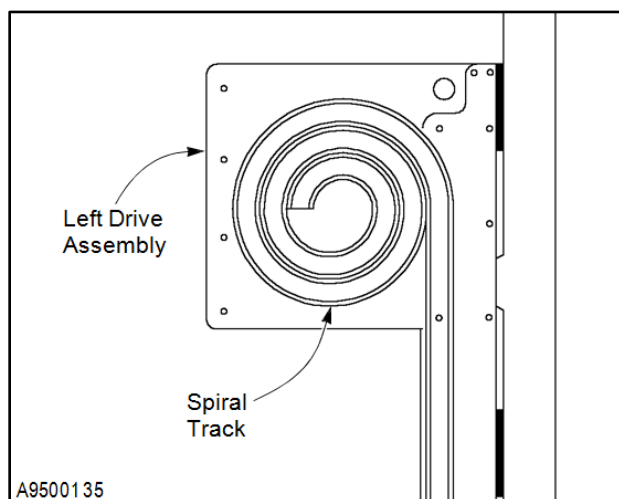

Figure 23
6. Inspect the hardware used to attach the spiral track sections to the left and right drive assemblies. Tighten the hardware as required. Replace any missing or damaged hardware. (See Figure 23.)